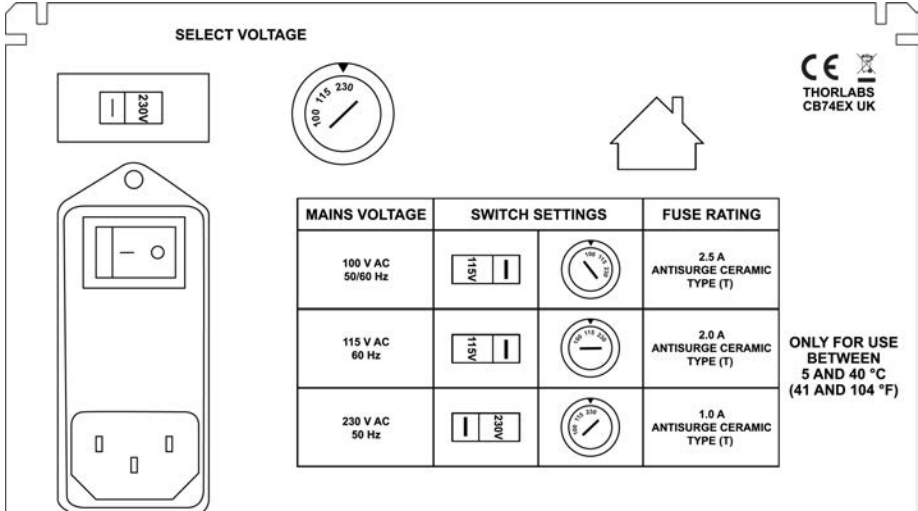

Fig. 3.11 Rear Panel
1) Connect the power cord to the socket on the rear panel of the unit - see Fig. 3.11.